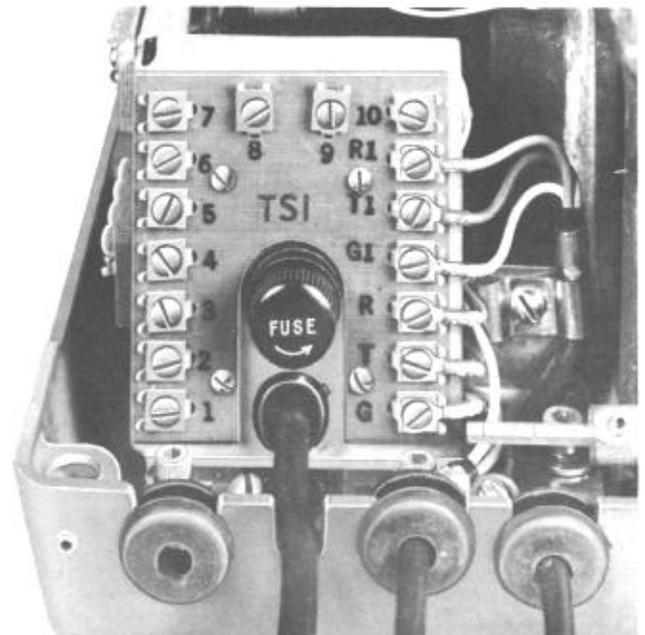

Fig. 9 - AC Fuse Holder and TS1
- 1.13 Fig. 9 identifies the ac fuse holder and TS1.